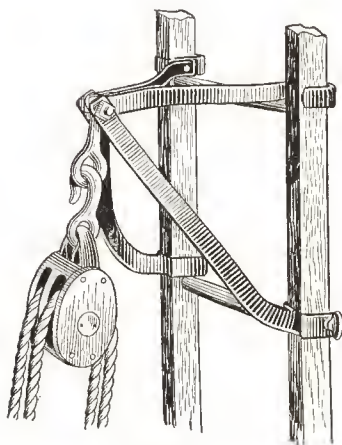

FIG. 43
**Swing Stage Ladder Brackets:** Figure 43. Used on upper end of two extension ladders in place of cornice hooks, where the building is not too high. The upper blocks are hooked on as shown in the picture and the stage platform swings between the ladders and the wall.